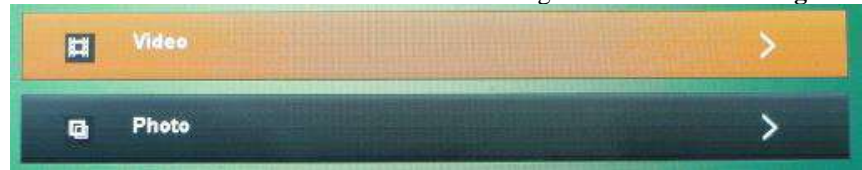

Figure 11
- 26. Use this menu to view stored videos and images on the controller. **Fig. 11**